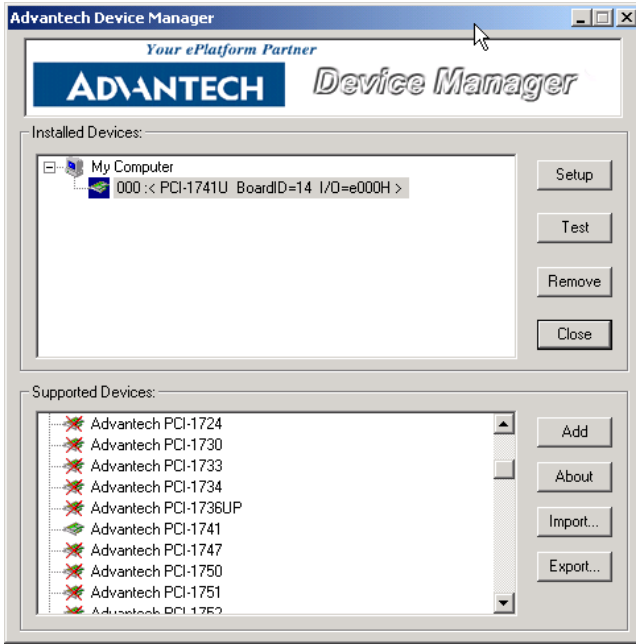

Figure 2.4: Device Manager Dialog Box
Step 3: The Installed Devices box will list the device(s) found on our system, such as the one in Figure 2.4.